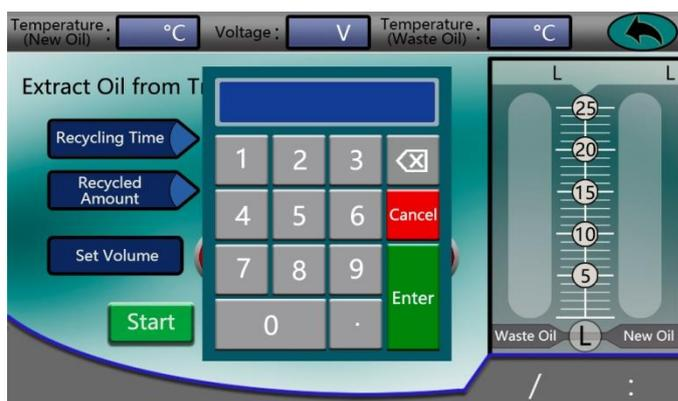

Fig.25
- 8.3 Click "+" or "-" to set the recycle amount. Or tap the edit box to pop up the number keyboard, and enter the number (Fig.25). Then click 'Start' to run and start the engine at the same time.